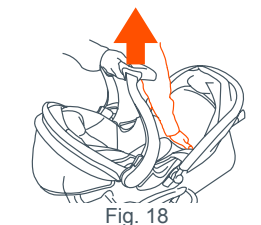

Fig. 18
- 18)•** To remove the Infant Car Seat, squeeze the release handle located at the foot-end of the seat and carefully lift upward on the seat (Fig. 18).